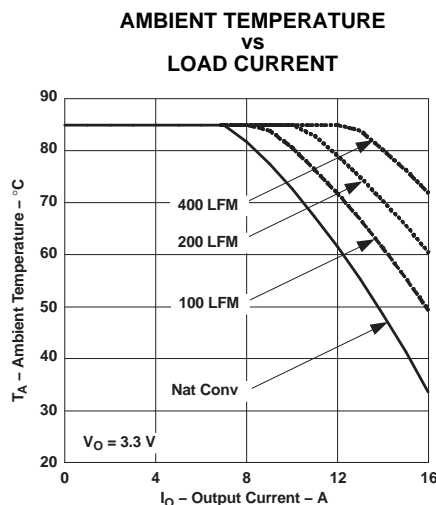

Figure 5. Safe Operating Area
- (2) The temperature derating curves represent the conditions at which internal components are at or below the manufacturer's maximum operating temperatures. Derating limits apply to modules soldered directly to a 100 mm x 100 mm double-sided PCB with 2 oz. copper. For surface mount packages (AS and AZ suffix), multiple vias must be utilized. Please refer to the mechanical specification for more information. Applies to Figure 5.